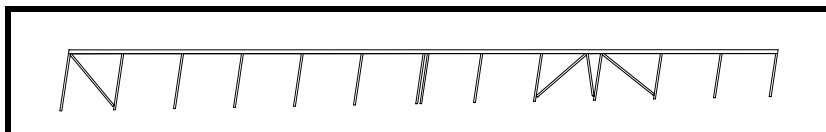

Figure 8
- ❑ Temporarily clamp the trailing edge strip in place. Fit and install the diagonal flap and aileron ribs. See Figure 8. The channel-nuts for the aileron and flap hinges should be permanently installed. After the diagonal trailing edge ribs are installed, most of the channel-nuts are difficult to remove and the channel-nut for the inboard flap hinge is probably impossible to remove.